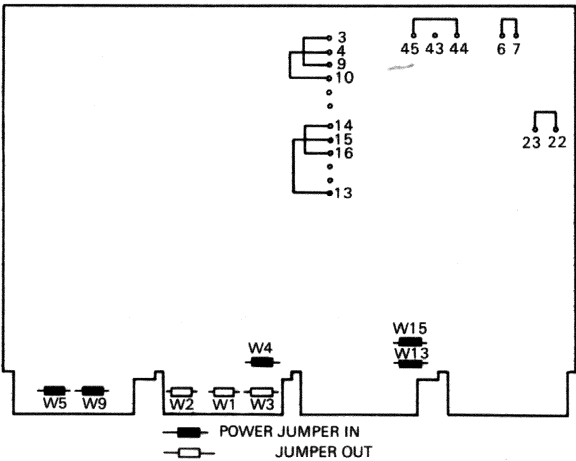

Figure 9 Jumper Locations
3. Check new PCB for jumper positions (see Figure 9)